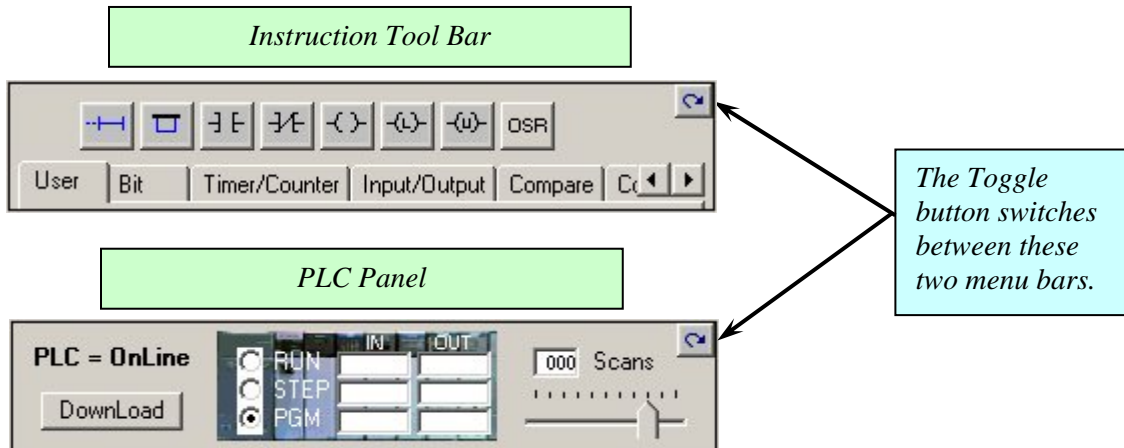

Figure 7
- Click the Toggle button in the upper right corner of the Instruction Tool Bar. The Instruction Tool Bar will change to display the PLC Panel as shown in Figure 7.